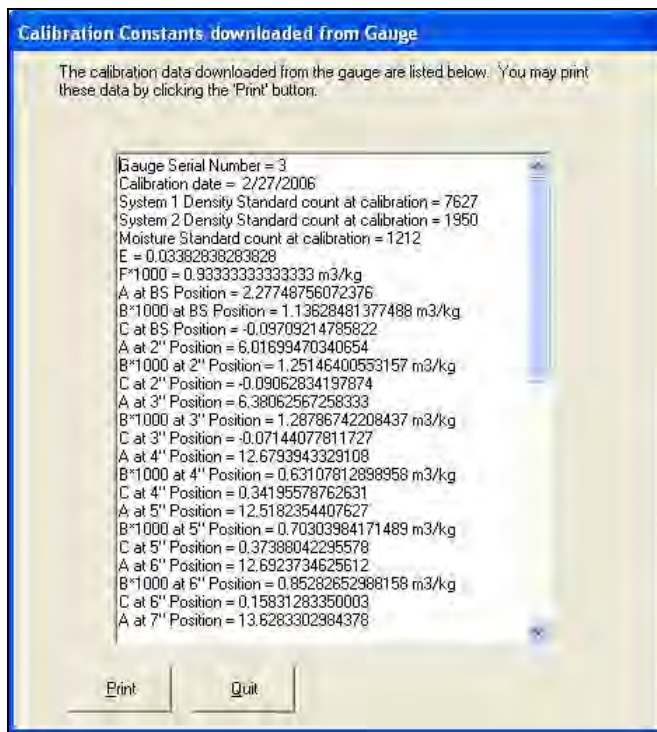

Figure 12. Calibration Constants Downloaded from Gauge Screen
- 4.7 The program now displays the calibration constants that were downloaded from the gauge, as shown in Figure 12. To view all of the constants, use the scroll bar along the right side of the text box where the constants are displayed. To print a copy of the data, clicking **<Print>**. To return to the PlusLoader main menu, click **<Quit>**.
**The example shown in Figure 12 is for a Model 3451 gauge. The screen for a Model 3430 Plus or 3440 Plus gauge will have a slightly different format, as these gauge models have only one density standard count and no thin-layer constants.**